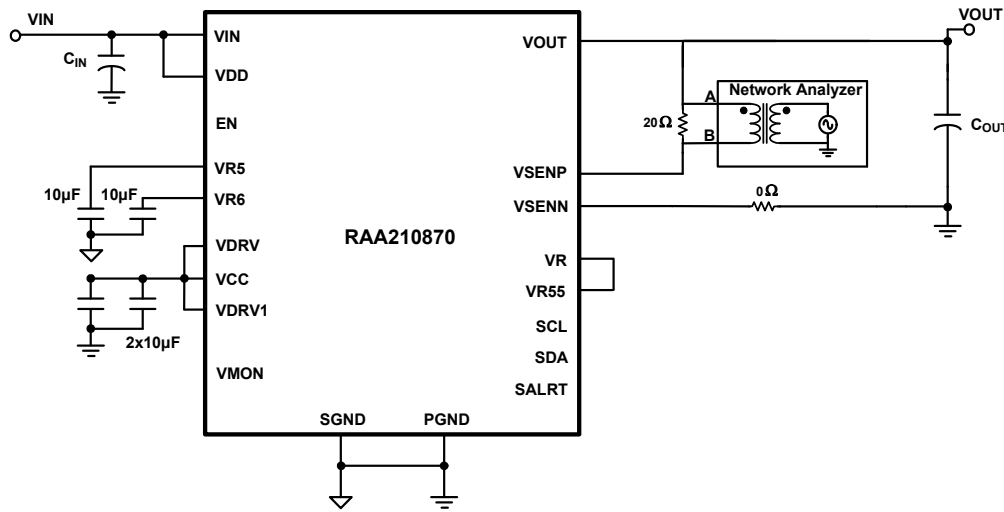

Figure 2. Network Analyzer
- (1) Break the feedback loop by removing the R11 resistor in the remote sense path, connected between VSEN and VOUT.
- (2) Solder a 20 $\Omega$  resistor in its place. The value of the resistor could be in the range of 10 $\Omega$  to 50 $\Omega$ .
- (3) Solder a twisted wire pair to the 20 $\Omega$  resistor. Ensure that the wires are short in length. A small twisted pair works well by minimizing noise pickup, which is important for a good measurement.
- (4) Enable the converter.
- (5) Use a “Network Analyzer” to inject a small AC signal (~20mV) across the 20 $\Omega$  resistor as shown in Figure 2 on page 7.
- (6) Measure the amplitudes of the signals at points A and B as shown in Figure 2.
- (7) Sweep the frequency using the “Network Analyzer” to observe the bandwidth, phase, and gain margin.